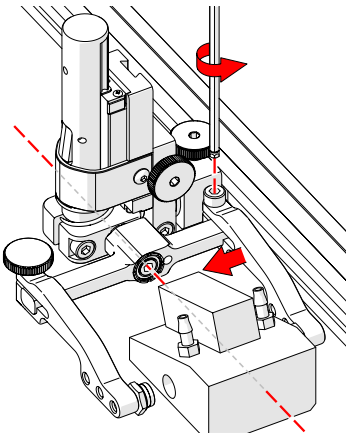

Fig. 108 - Adjust inner arm
4. Position the wedge on the inner probe holder arm (Fig. 108).
TIP: The probe holder yoke can accommodate many different probe and wedge sizes of varying widths. It is best to centre the wedge with the yoke's pivot axis. This can reduce wedge 'rocking' when scanning. Position the inner probe holder arm accordingly (Fig. 108) using the supplied 3 mm hex driver (Fig. 40).